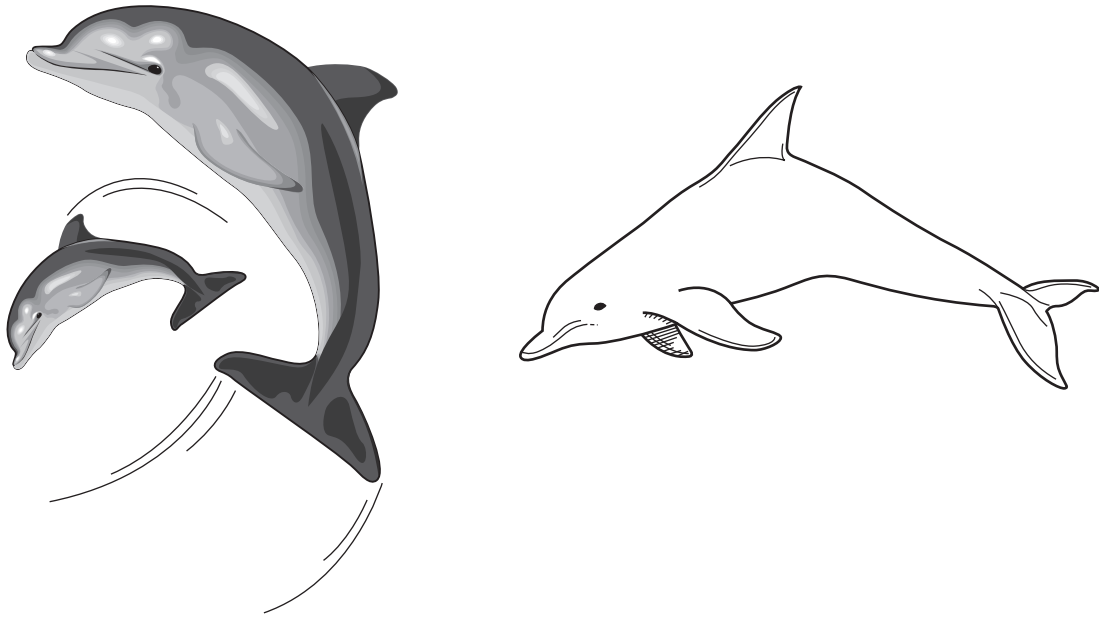

Fig. 12
- (c) Using notes and sketches, develop a design for the dolphin feature. The images shown in Fig. 12 have been provided to help you with your design work. The dolphin feature will be made from 9 mm MDF and include a feature which makes the tail move in some way. This movement **should not** be driven by the electric motor. [16]